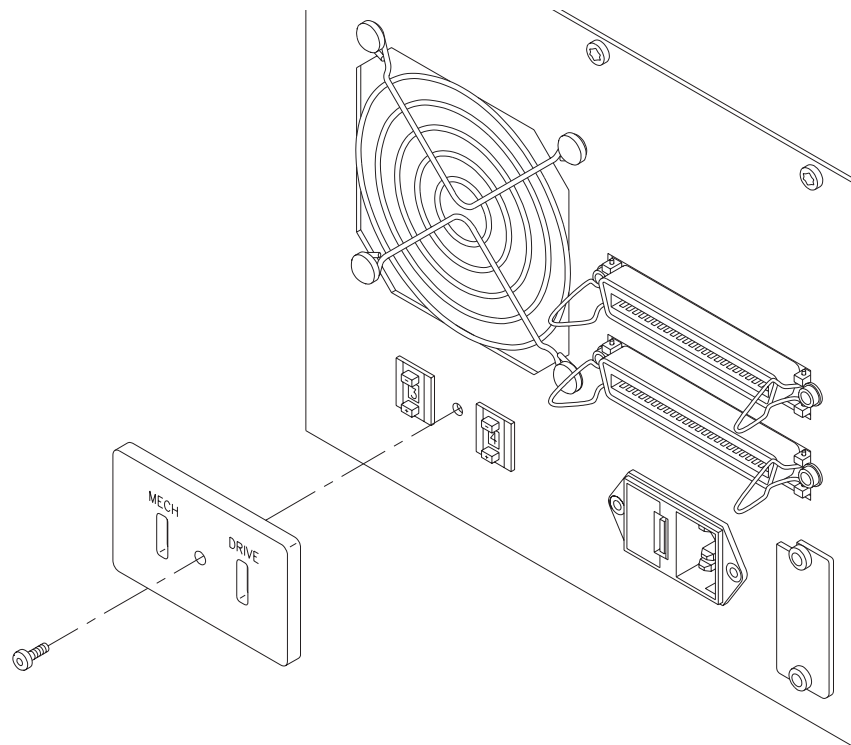

Figure 17-1 ESD cover plate
4. Some CHS models include an ESD cover plate that shields the SCSI ID switches, as shown in Figure 17-1. If your CHS has this plate, use a T-15 TORX driver bit to remove the single screw and remove the plate. If your CHS model also has a nut behind the screw, hold the nut with a hex nut driver and then use the T-15 bit to remove the screw.